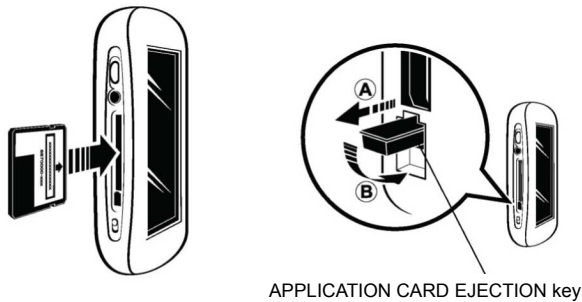

Figure 12. Inserting the application card.
1. Insert the application card (arrow and bar code side facing up and in the direction of the arrow) into the card slot until it is seated (Figure 12).